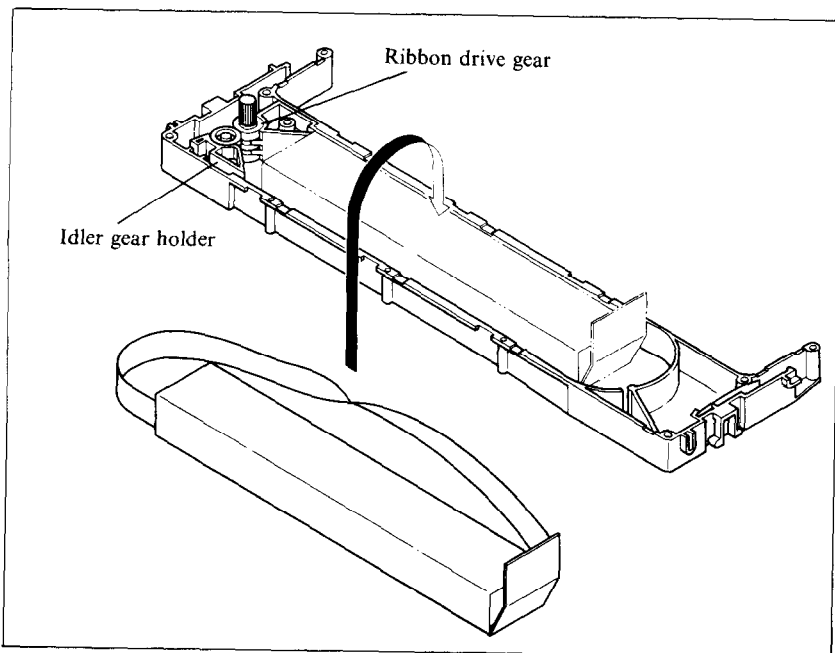

Figure 11-2. Replace the ribbon sub-cassette.
5. Press hard against the end of the idler gear holder to make a gap between it and the ribbon drive gear, and remove the old ink ribbon sub-cassette. See Figure 11-2.
7. Remove the wrapping from the new ribbon sub-cassette, remove the adhesive tape attached to the joint, and insert the sub-cassette into the ribbon cassette as shown in Figure 11-2.